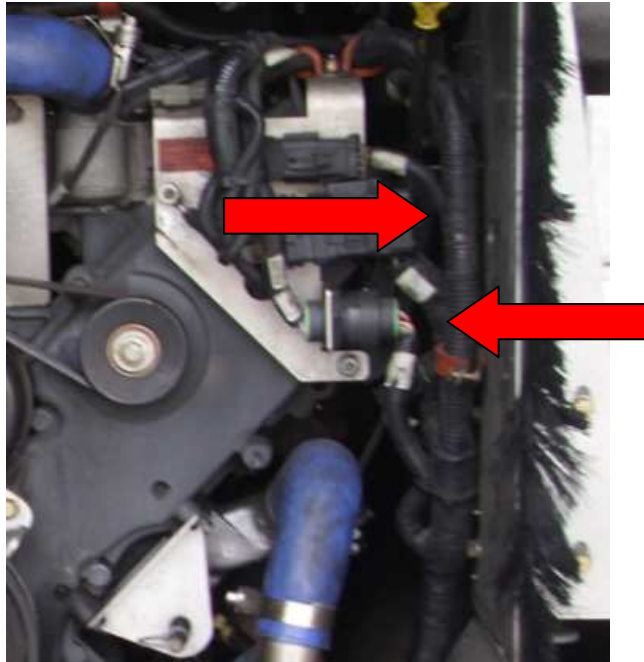

Figure 39: Installed CAN Connectors
- f. Re-install the CAN connectors on the CS divider panel by reversing the steps found in 5c. See Fig 39.